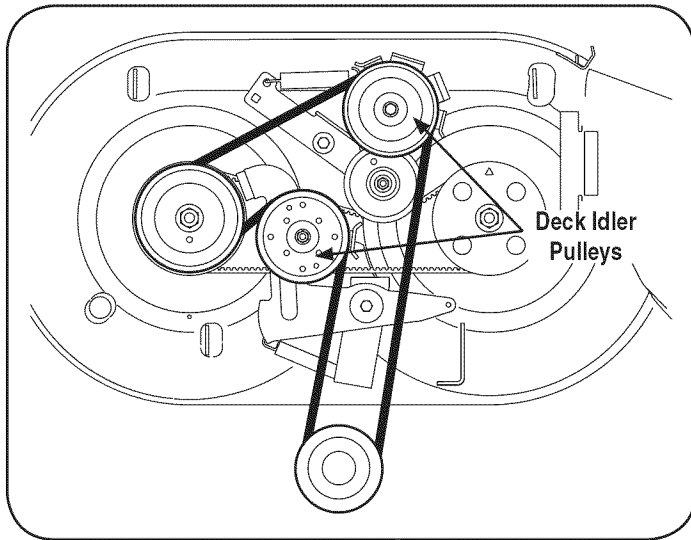

Figure 29
4. Loosen, but not remove, the nut and bolt which secures each deck idler pulley. See Figure 29.